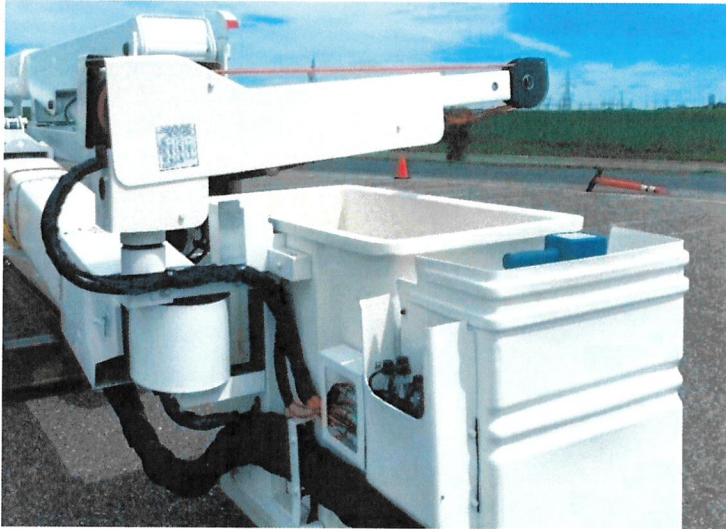

Figure 2. Included – Certain Top Mount Jib Assemblies
2. Visually inspect the jib assembly to determine if the jib assembly is affected using the Figures below as reference. Included are certain top mounted jibs, Figure 2.